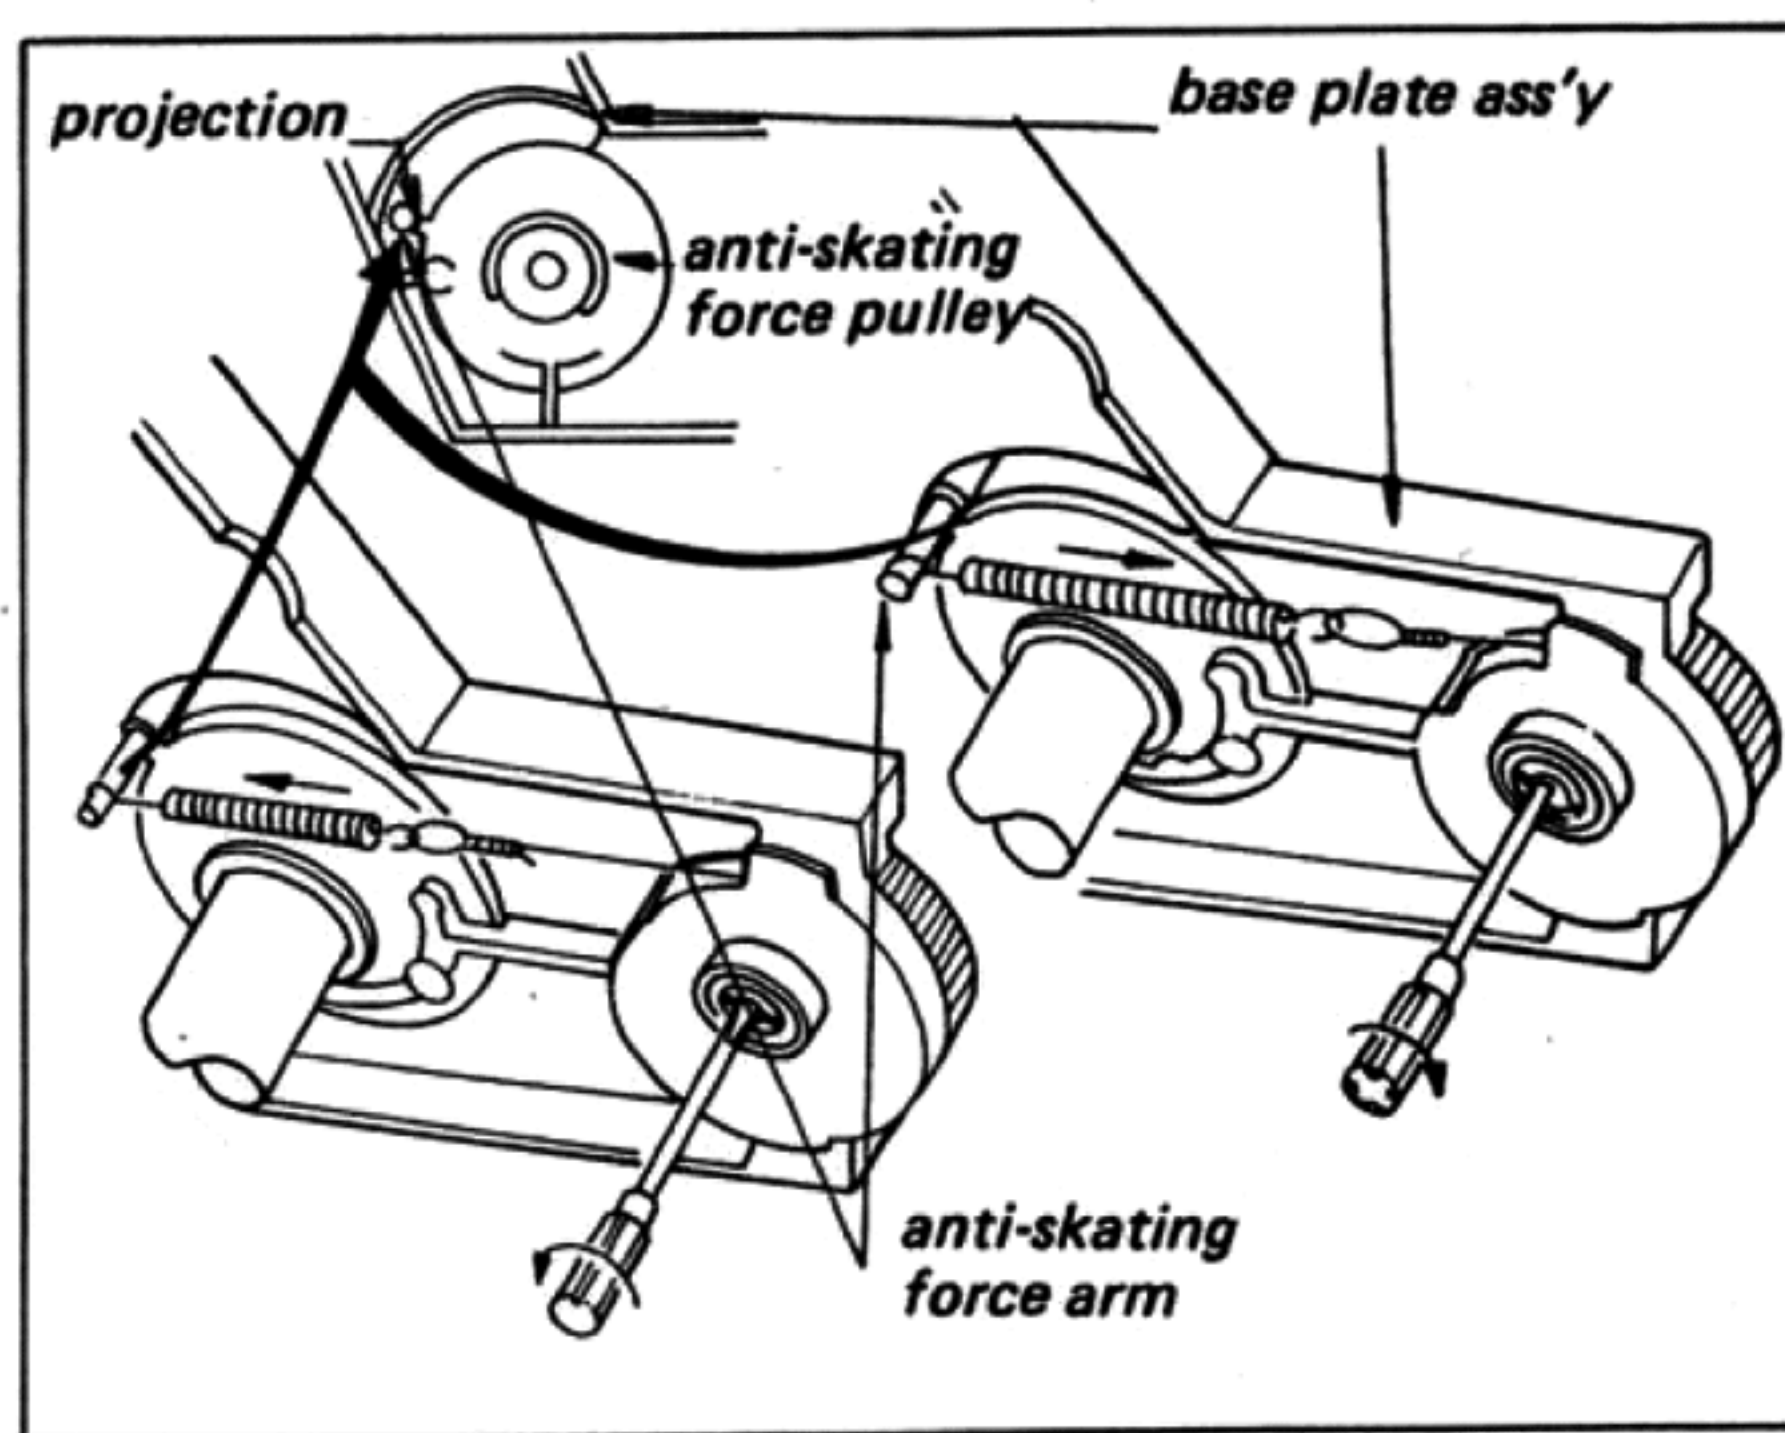

Fig. 2-20. Anti-skating force calibration
7. Hook the tension spring to the groove on the anti-skating force arm rod with a pair of tweezers as shown in Fig. 2-20.
9. Set the anti-skating force arm rod to the position where it coincides with the mark on the base plate assembly as shown in Fig. 2-20, then adjust the pulley position as follows:
Lengthen the tension spring some extent by turning the pulley clockwise first, and then turn the pulley counterclockwise gradually until the tension spring becomes to its original length, as shown in Fig. 2-20.